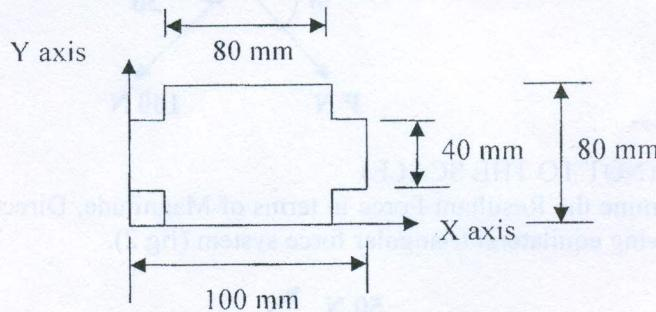

Fig 5 (NOT TO THE SCALE)
- [A] Find CG of lamina as shown in fig 5. All Dimensions are in mm.